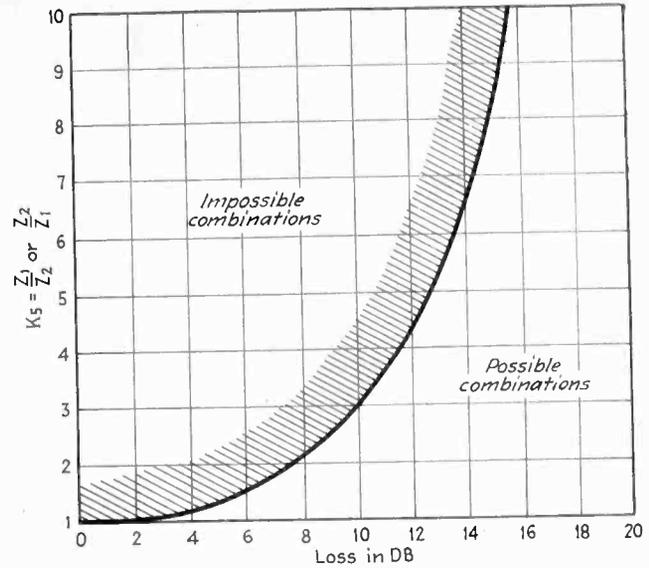

Fig. 3—Loss as a function of the terminal impedances
words, the ratio of the larger terminal impedance of the pad to the smaller impedance cannot be greater than a quantity (K_5 in equation (13)) which depends upon the loss. Values of K_5 for various values of the loss in db are given in Table I. The limiting values of the ratios are plotted in Fig. 3.
and that the pad so designed is to have a loss of 10 db . First, referring to Fig. 3 or Table I, we find it is pos-